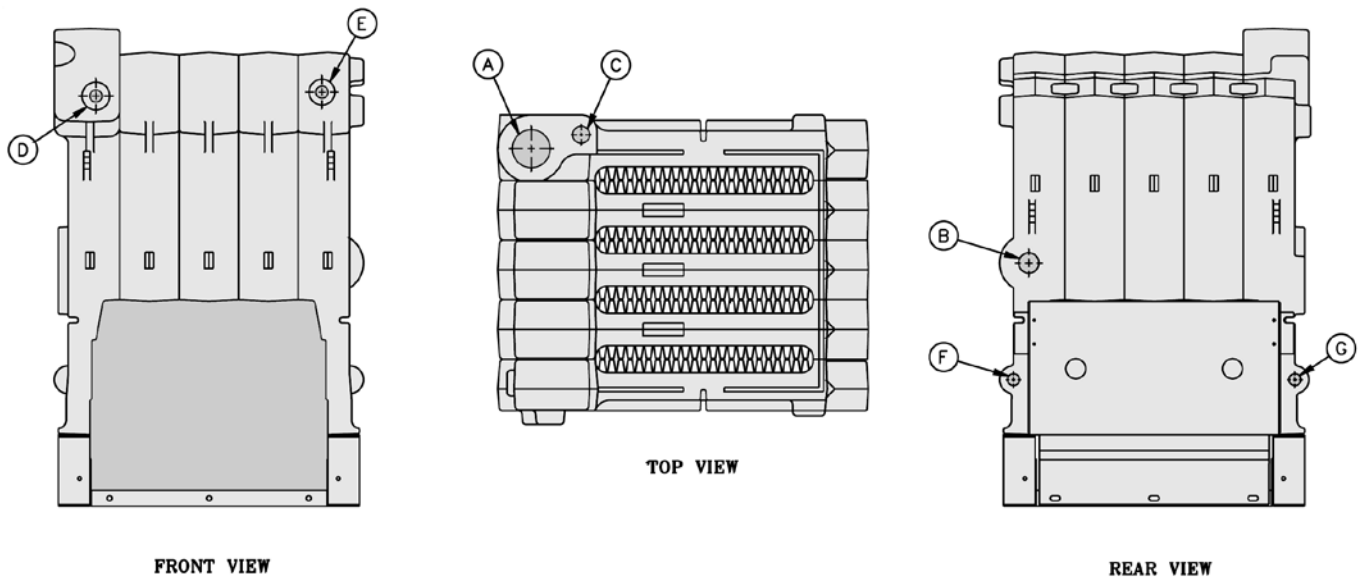

Figure 3: Tapping Locations
D. Test Section Assembly for leaks before connecting to system and installing controls, trim and jacket. Refer to Figure 3 and Table 3.
2. Insert Immersion Well in Tapping D. See Figure 3.